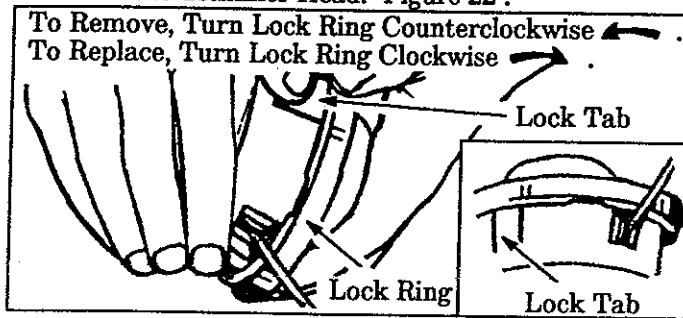

Figure 18
- a. Hold the Trimmer Head as shown in Figure 18 . Press the Lock Tab and turn Lock Ring as shown in Figure 18 .
- f. Align the Lock Ring over the three Catches on the Hub. Push the Lock Ring down on the Hub and turn as shown in Figure 18 .